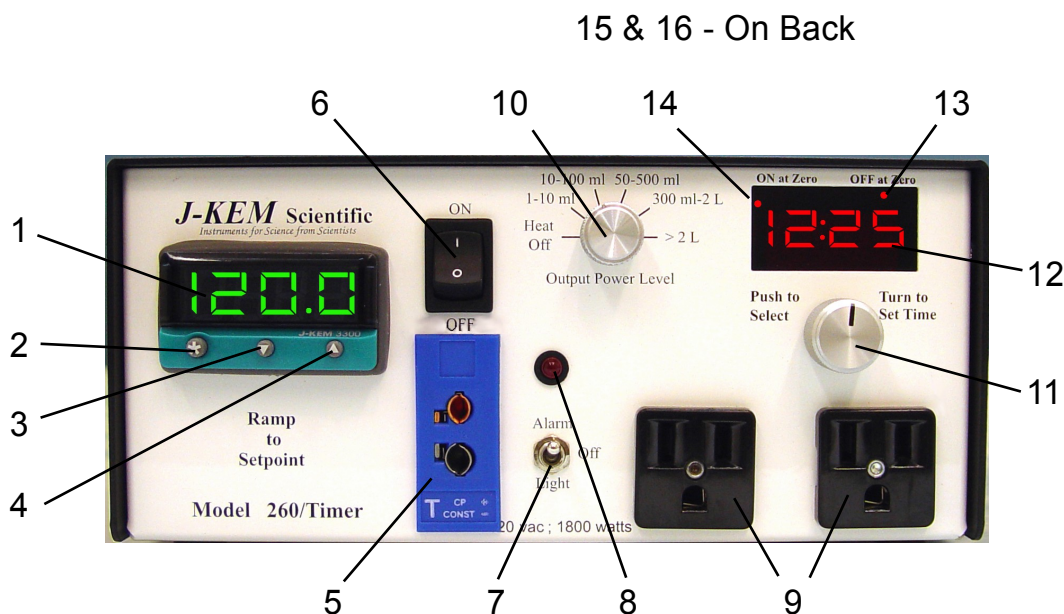

Figure 1
3.4 Temperature Sensor Input. Every controller is fitted with a specific *type* of thermocouple input and can only be used with a thermocouple of the same type. For the correct temperature to be displayed, the thermocouple type must match the receptacle type on the front of the controller (Figure 1; # 5). All thermocouples are color coded to show their type (Blue = type T; Yellow = type K; Black = type J). The color of the thermocouple plug must match the color of the receptacle on the front of the controller. If the thermocouple is broken or becomes unplugged, the error message “inPt” “FAiL” blinks in the temperature meter display and the controller stops heating.